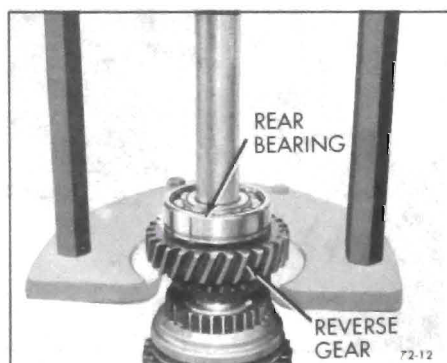

Figure 72-12 - Removing Rear Bearing
3. Using ram press or arbor press, remove rear bearing spring washer, thrust washer, and reverse gear. See Figure 72-12.